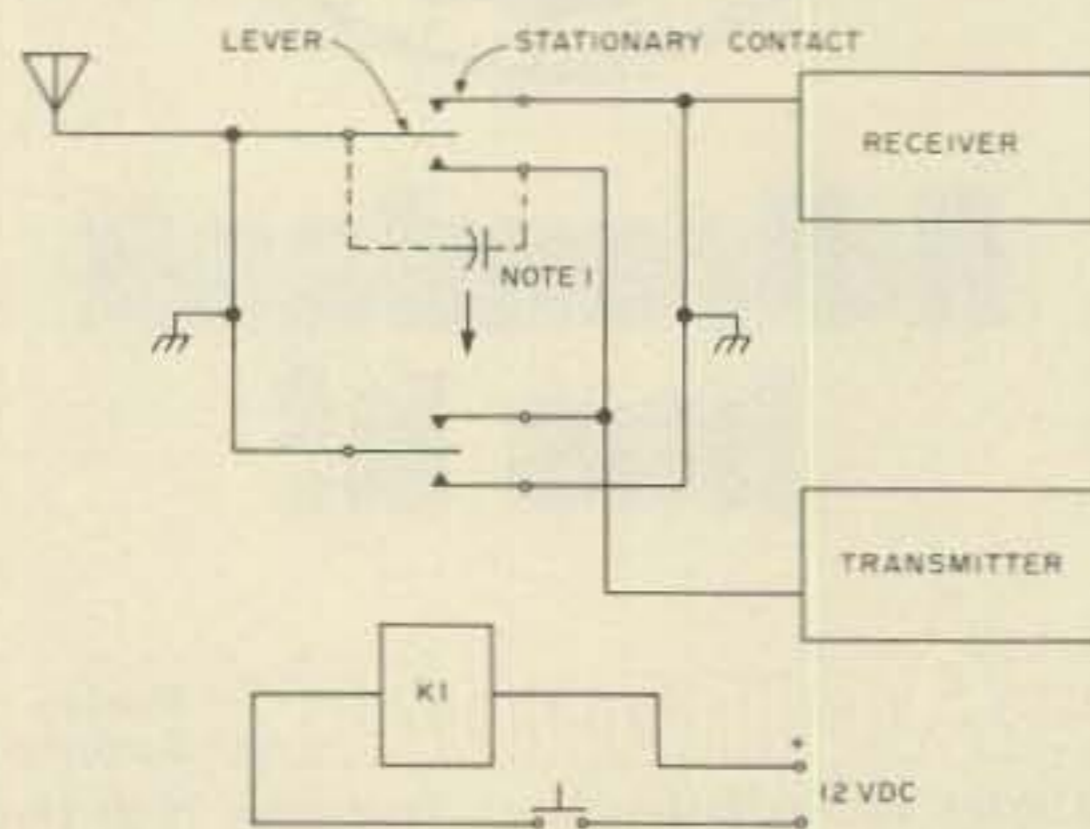

Fig. 1. Note 1: A 1000 uF capacitor may be put across the contacts if arcing occurs. No power must be applied from the transmitter during switching.
Mount the relay on a board or in a small cabinet (one would be available at Radio Shack or any other electronics store). You can get the relay from Radio Shack, another electronics store, or an outlet that stocks surplus telephone equipment. This switch doesn't have to have two transfer switches, but, if it does, you will be able to also have a switched ground. Mount your antenna leads to the relay as in Fig. 1. Also, mount your transmitter and receiver to the relay as in
Fig. 1. The antenna mounts on the lever or moving arm of the relay. The transmitter mounts to the contact, which is closed with the lever switch when power is applied. In most relays this is the bottom contact. The receiver mounts to the contact, which is closed when power is applied to the relay. Also, do the same with the coax ground on another transfer switch.
Fig. 1 shows the ARRL's CD Operating Aid 9, which explains the *Amateur Message Form*. Every message that you ever send or receive must be in this form. To some, it seems rather complex; to others, it is just part of the
The first major section is called the preamble. This is specifically for the benefit of the station receiving the message (hereafter referred to as the *relay station or relay*). The preamble is broken up into eight parts, a-h. Please use Fig. 1 as a guide.
b. *Precedence* — The precedence is extremely important. There are four precedences: Emergency, Priority, Inquiry, and Routine. They are handled in that order also. An *emergency* message will *always* be handled before all others. The same is true for the other precedences — the higher the precedence, the quicker it must be handled. Fig. 1 has a list of precedences. I suggest that you read it carefully and understand it fully. Virtually every message that you will handle will be a *routine* message unless there is an emergency. This, however, is extremely *rare*. Note: On CW, routine is R, inquiry is Q, and priority is P, but emergency is always spelled out completely.